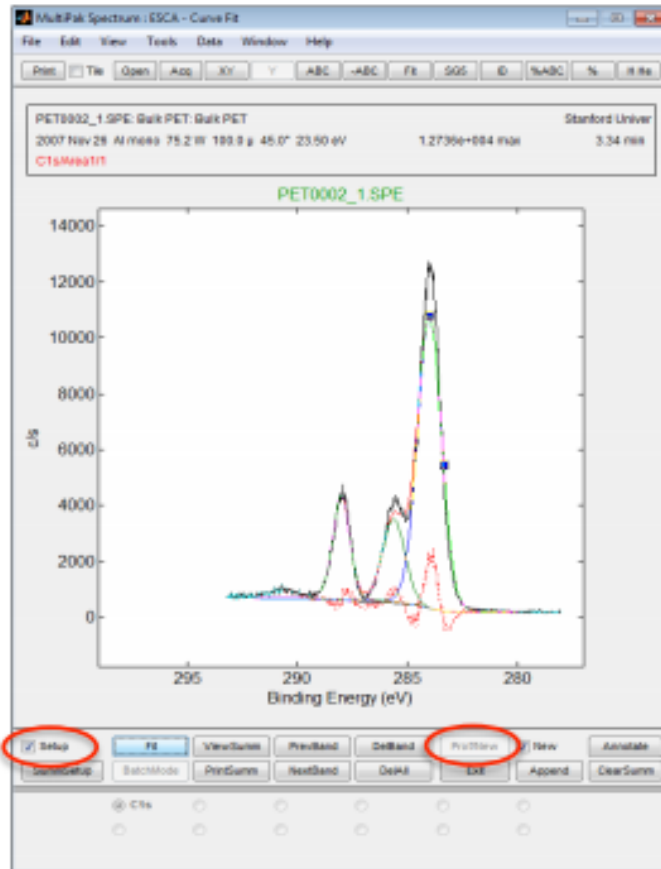

FIG 19. FIT module open in the Spectrum window. Uncheck "setup," press Prof/New or Prof/Update to send bands to Profile window.
6. With the fitted peak in the Spectrum window (FIG 19), uncheck "setup" at the bottom left of the Spectrum window.
7. The **Prof/Update** button will become active (FIG 19). Press **Prof/Update** to send the fitted bands to the Profile window.